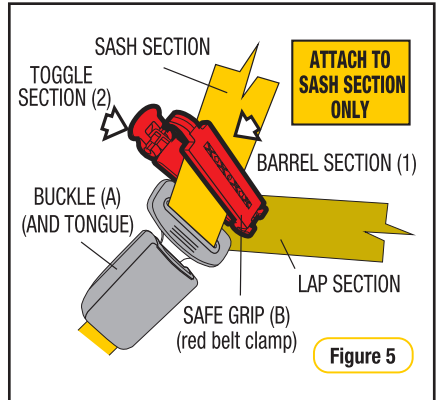

Figure 5
Step 3: Push down on the base of the restraint (with knee or hand) whilst pulling the sash section of the vehicle belt firmly up in the direction of the yellow arrow in Figure 4. (This will tighten the lap belt across the seat base). Whilst continuing to pull the sash section up, attach the Safe Grip red belt clamp on the sash section ONLY as close as possible above the buckle tongue assembly. (Refer to Figure 5 and Instruction for installing the Safe Grip red clamp below)
To install the **Safe Grip** (red belt clamp), open it and clamp the “sash section” **ONLY** of the vehicle seat belt by closing the barrel section of the red belt clamp in the direction of arrow 1 in Figure 5 and then locking with the toggle section by pushing in the direction of arrow 2 in Figure 5 when the **Safe Grip** (red belt clamp) is secured in place, the lap section is now tightly holding your child restraint in place, independent of the sash section. The **Safe Grip** (red belt clamp) must be removed when the child restraint is not installed to allow other users to use the seat belt as a lap/sash seat belt. Always keep the **Safe Grip** (red belt clamp) in pocket provided when not in use.
Step 5: Remove all of the slack from the harness lap straps by pulling shoulder straps (refer Figure 5), then pull the harness adjustment strap to adjust harness to a comfortable but firm fit (refer Figure 5 & 6).